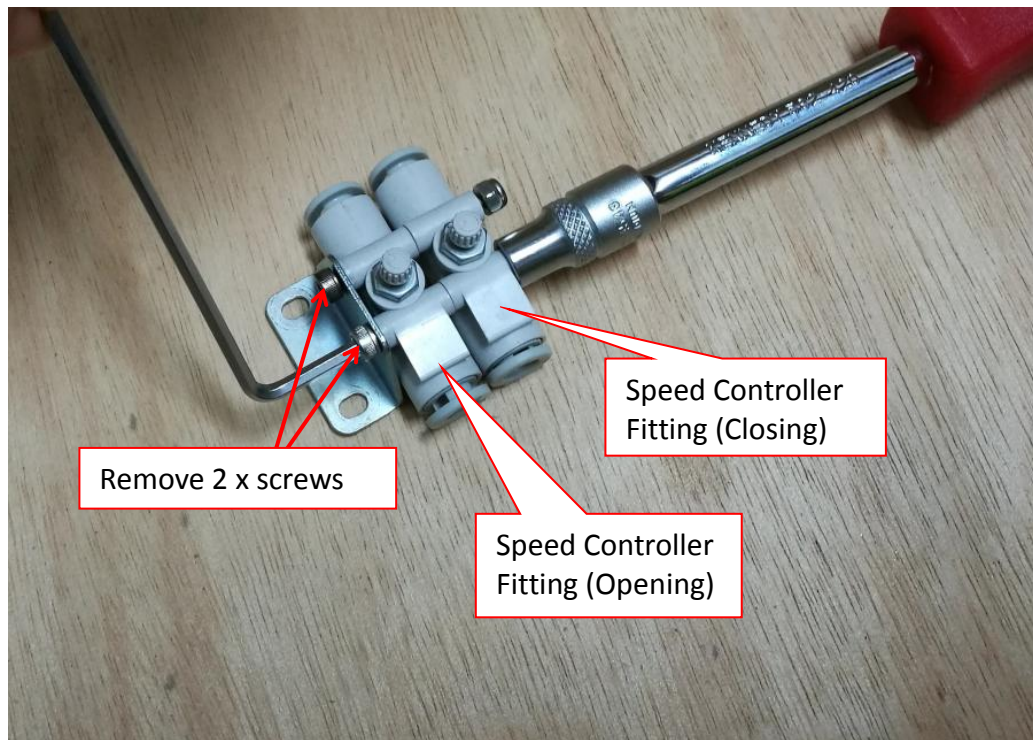

Figure 3 Speed controller fitting removal
- Remove 2 x Screws & Defective Speed Controller Fitting as shown in Figure 3.